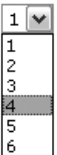

Figure 67. Volume Drop Box
3. Click the Volume Steps (64 Max) drop box. A drop down scroll box appears (see figure 67).